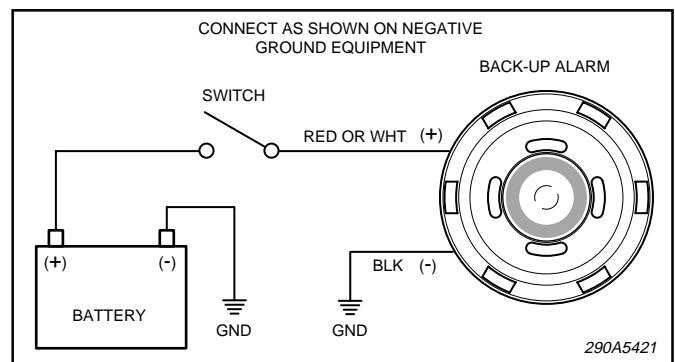

Figure 1.
4. See figure 1. Route user-supplied wires (minimum 18AWG) to the switch location, one from the positive terminal of the back-up alarm and the other from a fused power source.